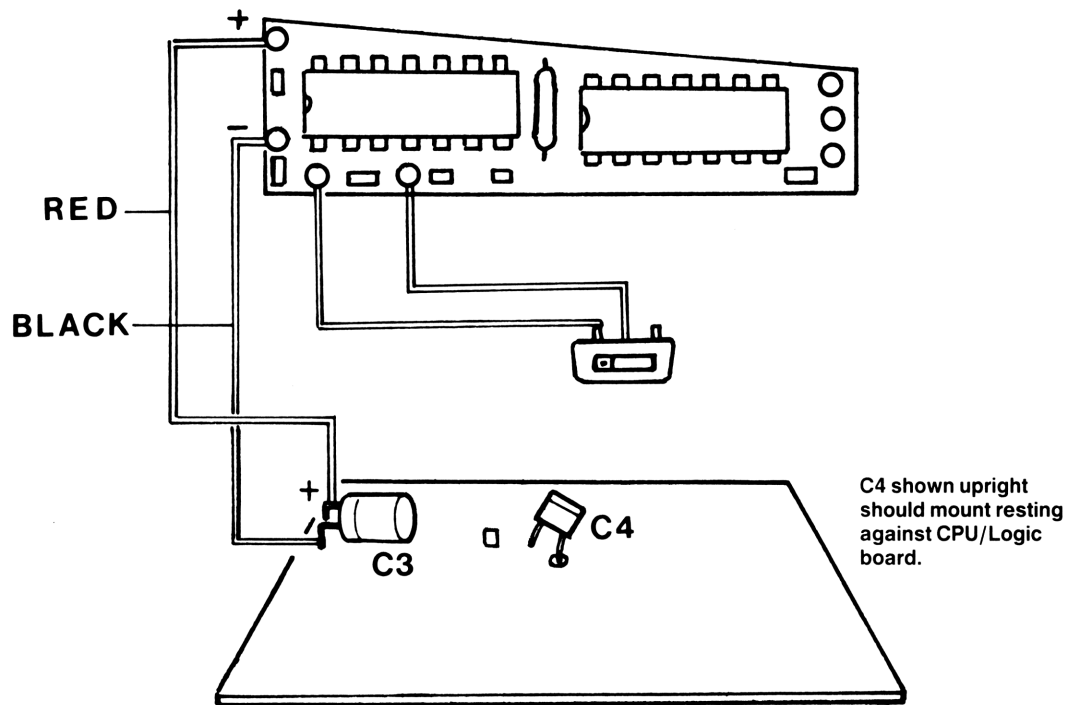

Figure 6
28. Refer to figure 6. . This figure illustrates the present state of the conver- []